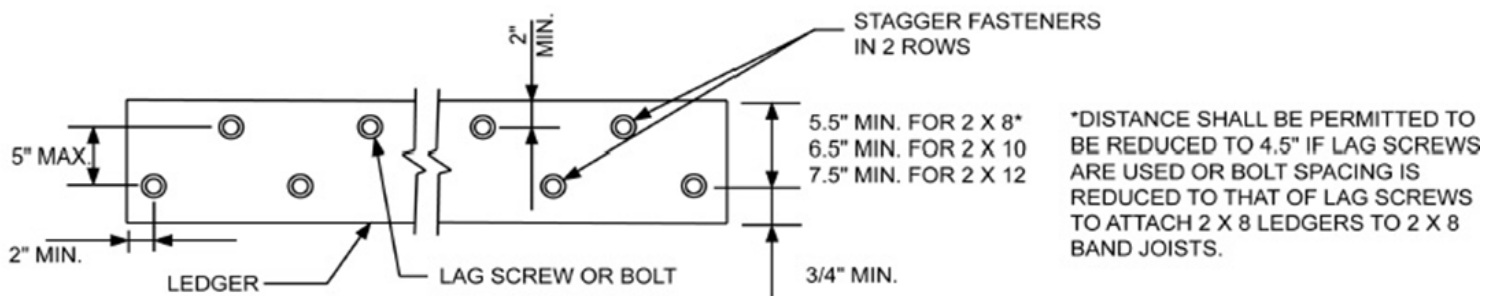

FIGURE R507.9.1.3 (1) PLACEMENT OF LAG SCREWS AND BOLTS IN LEDGERS
The lag screws or bolts in deck ledgers and band joists shall be placed in accordance with Table R507.9.1.3 (2) and Figures R507.9.1.3 (1) and R507.9.1.3 (2).
- a. Lag screws or bolts shall be staggered from the top to the bottom along the horizontal run of the deck ledger in accordance with Figure R507.9.1.3 (1)
- d. The minimum distance from bottom row of lag screws or bolts to the top edge of the ledger shall be in accordance with Figure R507.9.1.3 (1)